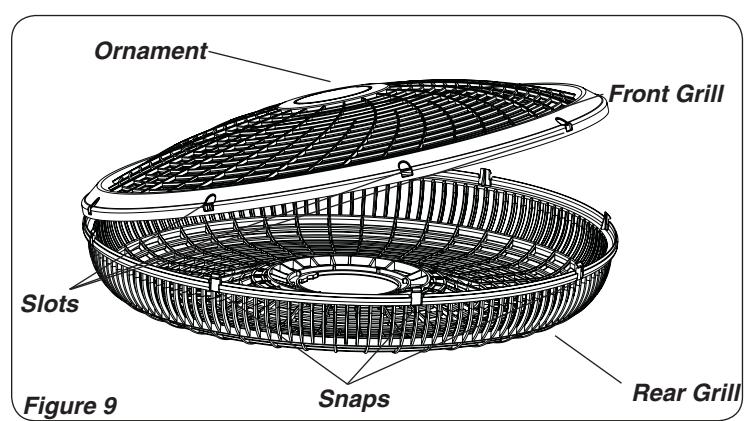

Figure 9
5. With fan head in upright position, align *Ornament* of *Front Grill* so it is horizontal and right side up. By starting with the top of the grill and working down, insert *Snaps* on *Rear Grill* through *Slots* in *Front Grill*. (*Figure 9*)